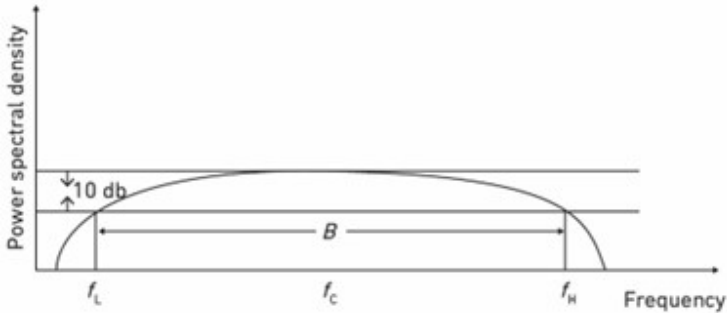

Figure 9: Power spectrum of a UWB system's low, central, and high frequencies. (Source: Qorvo)
Figure 9 illustrates the calculation of absolute bandwidth (B) and fractional bandwidth. Maximum power density is at the central frequency f_c , and f_H and f_L are the high and low frequencies at which the power spectral density is 10dB below f_c . B_{frac} is defined as B/f_c . In terms of high and low frequencies, we have